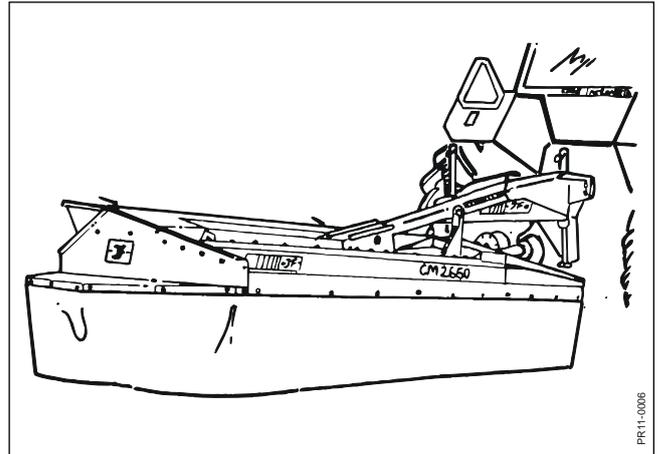

Fig. 2-26
**Fig. 2-26:** Disconnect the machine in transport position. Release the spring hook for the stop, lower the lift arms and disconnect the top link. Raise the lift arms and lower the jacks, lower the lift arms and release them from the machine.